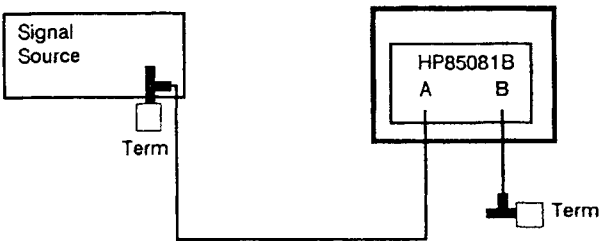

Figure 4-1. Channel Isolation Test Setup
- 1. Configure the equipment as shown in Figure 4-1.